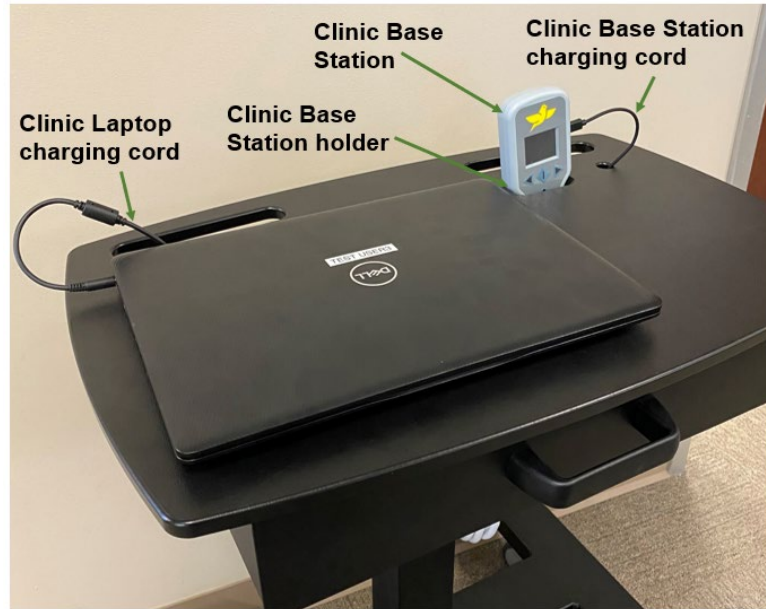

Figure 11: Clinic Cart with Clinic Base Station
2. Connect the Clinic Laptop to the Laptop Power Supply as illustrated in Figure 11.
1. Place the Clinic Base Station in the holder on the Clinic Cart's top flat service as illustrated in Figure 11.
2. Connect the Clinic Base Station to the charging cord as illustrated in Figure 11.